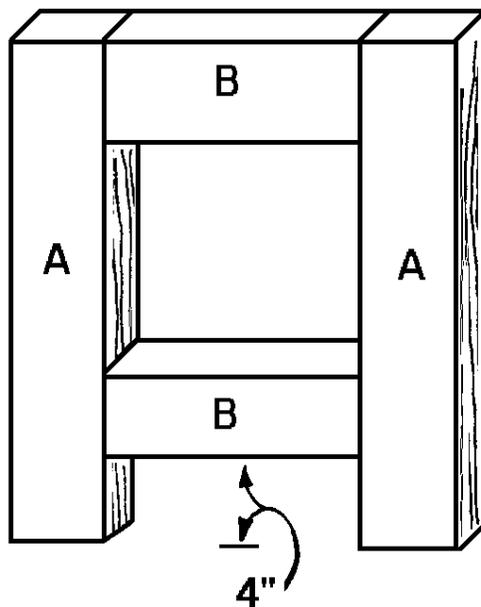
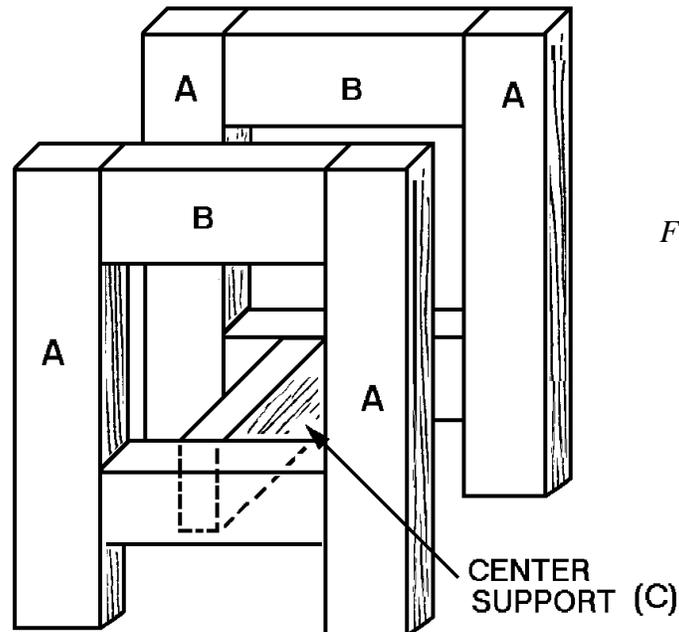

Figure 1
Figure 2
3. Assemble one side as shown in *Figure 1*, placing two leg supports (B) between two legs (A). One leg support (B) should be flush with the ends of the two legs (A), and the second leg support (B) should be placed 4 inches from the opposite ends of the legs (A). Glue and screw the assembly together, using 3-1/2"-long screws. Use two screws for each joint. Drive the screws at an angle (toenail) through the top and bottom edges of each leg support (B) into each leg (A). Repeat this process to assemble the second side.
4. Cut one 13"-long center support (C) from 2 x 4 treated lumber.
5. Perform this next assembly on a level work surface to make certain that the finished base is level. Place the center support (C) between the two sides, as shown in *Figure 2*, and screw it in place using 3-1/2" screws. Drive the screws through the face of each leg support (B) into the ends of the center support (C) into the ends of the center support.